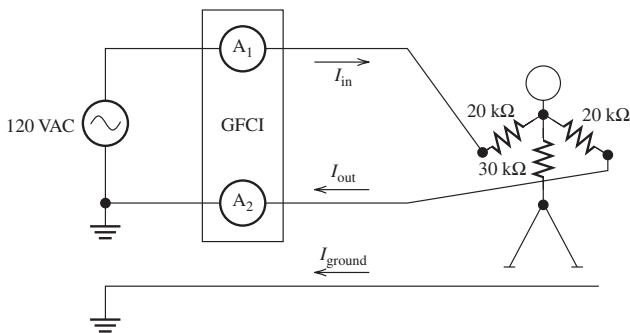

FIGURE P15.36 Circuit diagram for Problem 15.36.
- 15.36** (A) An individual comes into contact with the incoming and return conductors of a GFCI-protected circuit, as shown in Figure P15.36. He is wearing rubber boots, which isolate his feet from the ground.